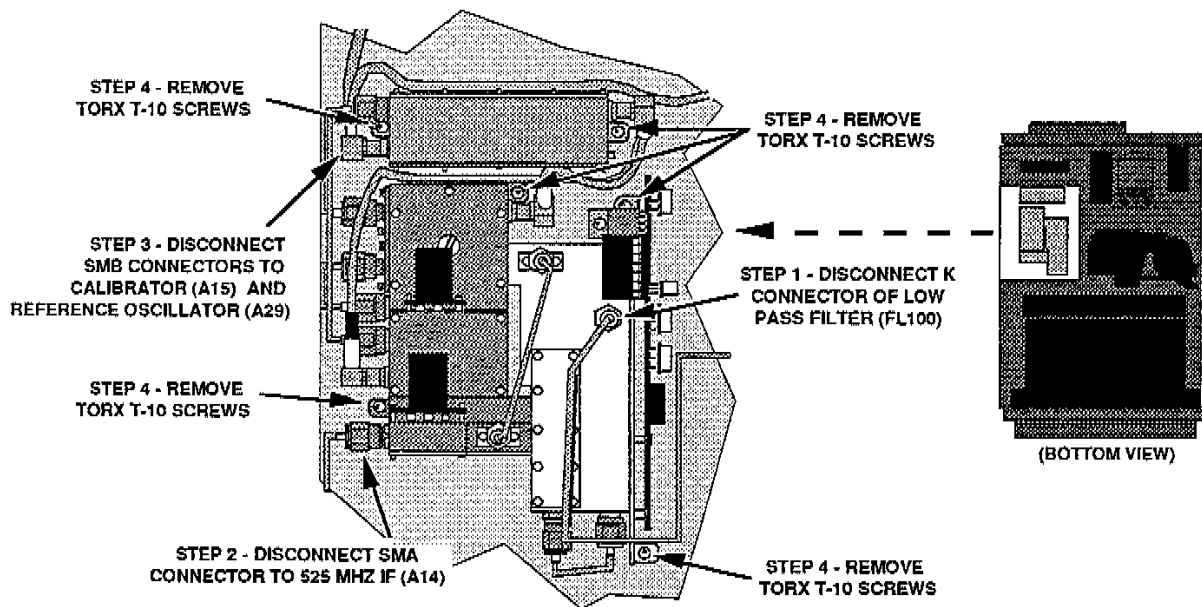

Figure 4-19. Steps to replace the Microwave IF Assembly.
The Microwave IF Assembly (A13) is replaceable as a single item. The assembly consists of two sub-assemblies connected by cables. Both sub-assemblies must be replaced as a unit. Refer to Figure 4-19 for the steps to replace the assembly.
4. Remove the six Torx T-10 screws indicated in Figure 4-19.